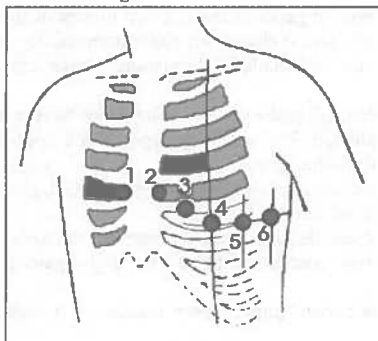

Figure 10-1: chest electrode locations
10.1 Chest electrode, as shown in figure 10-1: